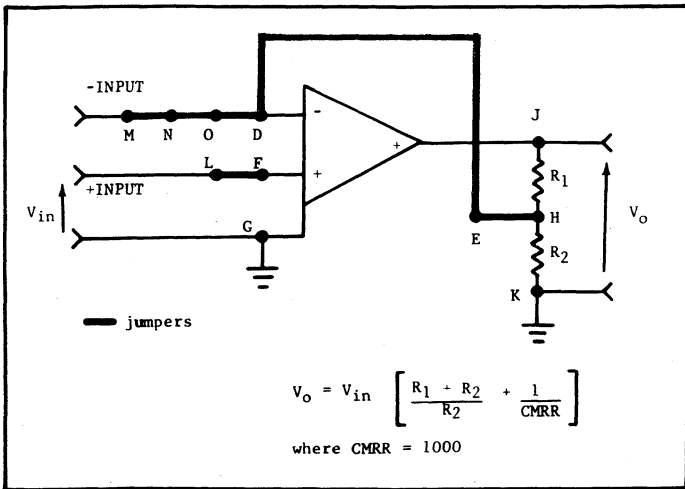

FIGURE 15. Voltage Amplifier
10. Voltage Amplifier (With Fractional Feedback). In this mode the output voltage is a function of the divider ratio established by R_1 and R_2 where $V_o = V_1 [(R_1 + R_2)/R_2]$. The common mode error and gain error should be considered as additional sources of inaccuracy. Connections should be made as shown in Figure 15.